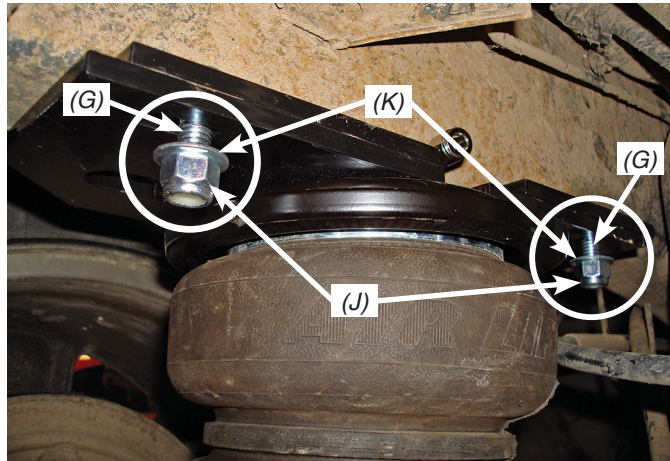

fig. 12
1. Set the assemblies onto the axle with the fittings to the inside of the frame (fig. 12). Align the upper Air Spring and Frame bracket (A) (that was previously installed) slots and attach using two 3/8-16 X 1.25" Carriage Bolts (G), two Flat Washers (K) and two Nyloc Nuts (J). Repeat for the opposite side and leave hardware loose at this time.